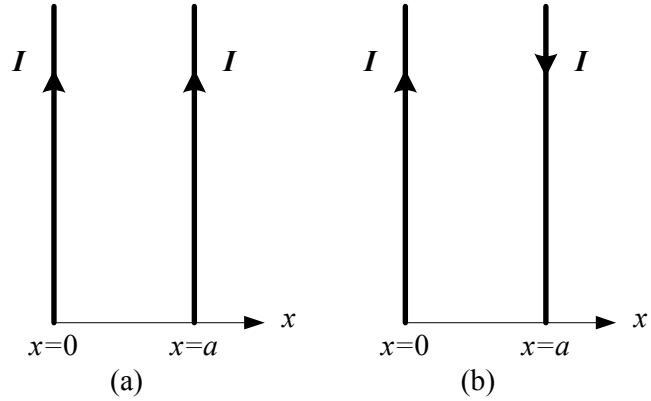

Figure 2: Two parallel straight conductors with
where a is the distance between the conductors. Equation (2) applies to the case when the currents flow in the same direction and equation (3) applies when the currents flow in the opposite directions as shown in figures 2 (a) and (b) respectively.